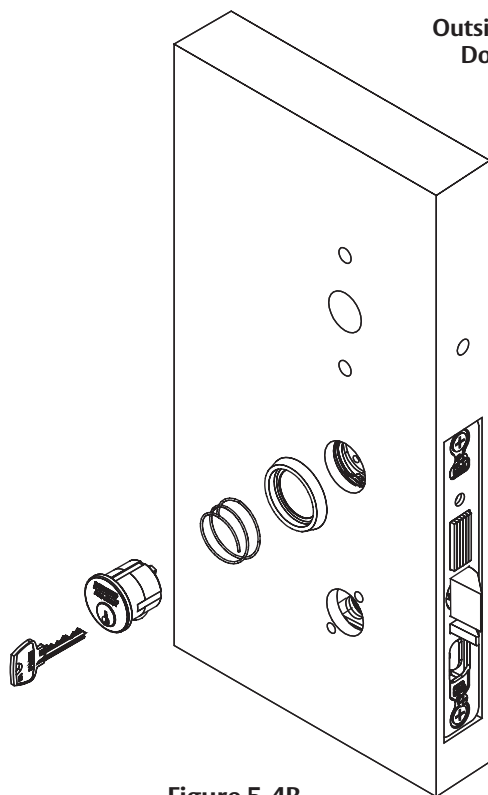

Figure 5-4B
1. Slide the spring and the rosette onto the cylinder (Figure 5-4B).
3. Insert key 75% of the way and utilize the key to rotate the cylinder into the rest of the cylinder hole.